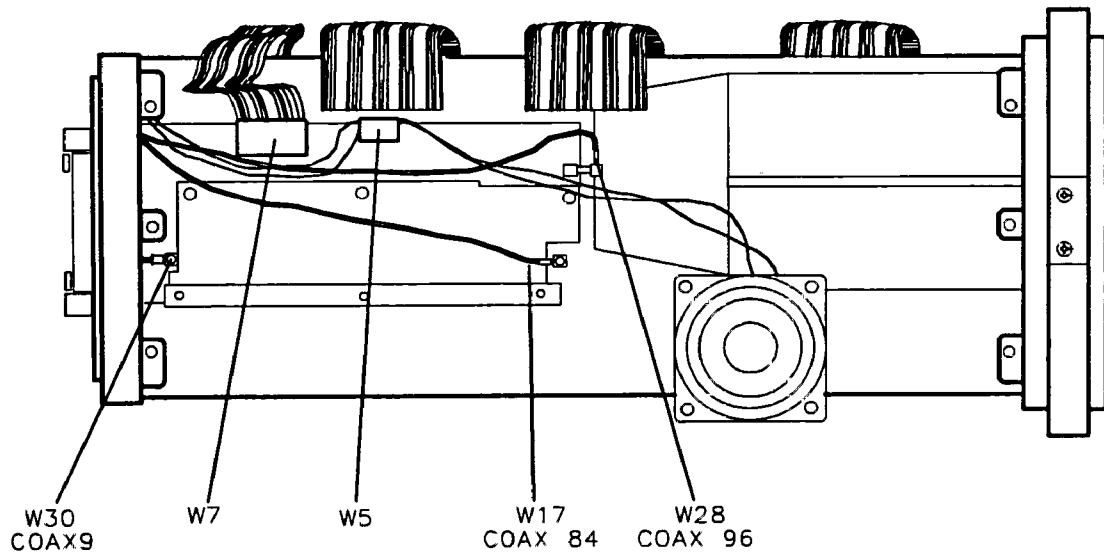

Figure 3-15. A16 Cable Routing
8. Place the A16 Cal Oscillator Assembly into the center-deck mounting slot nearest the left-side frame. Figure 3-15 shows the left-side frame removed so that proper A16 Assembly cable routing may be viewed.